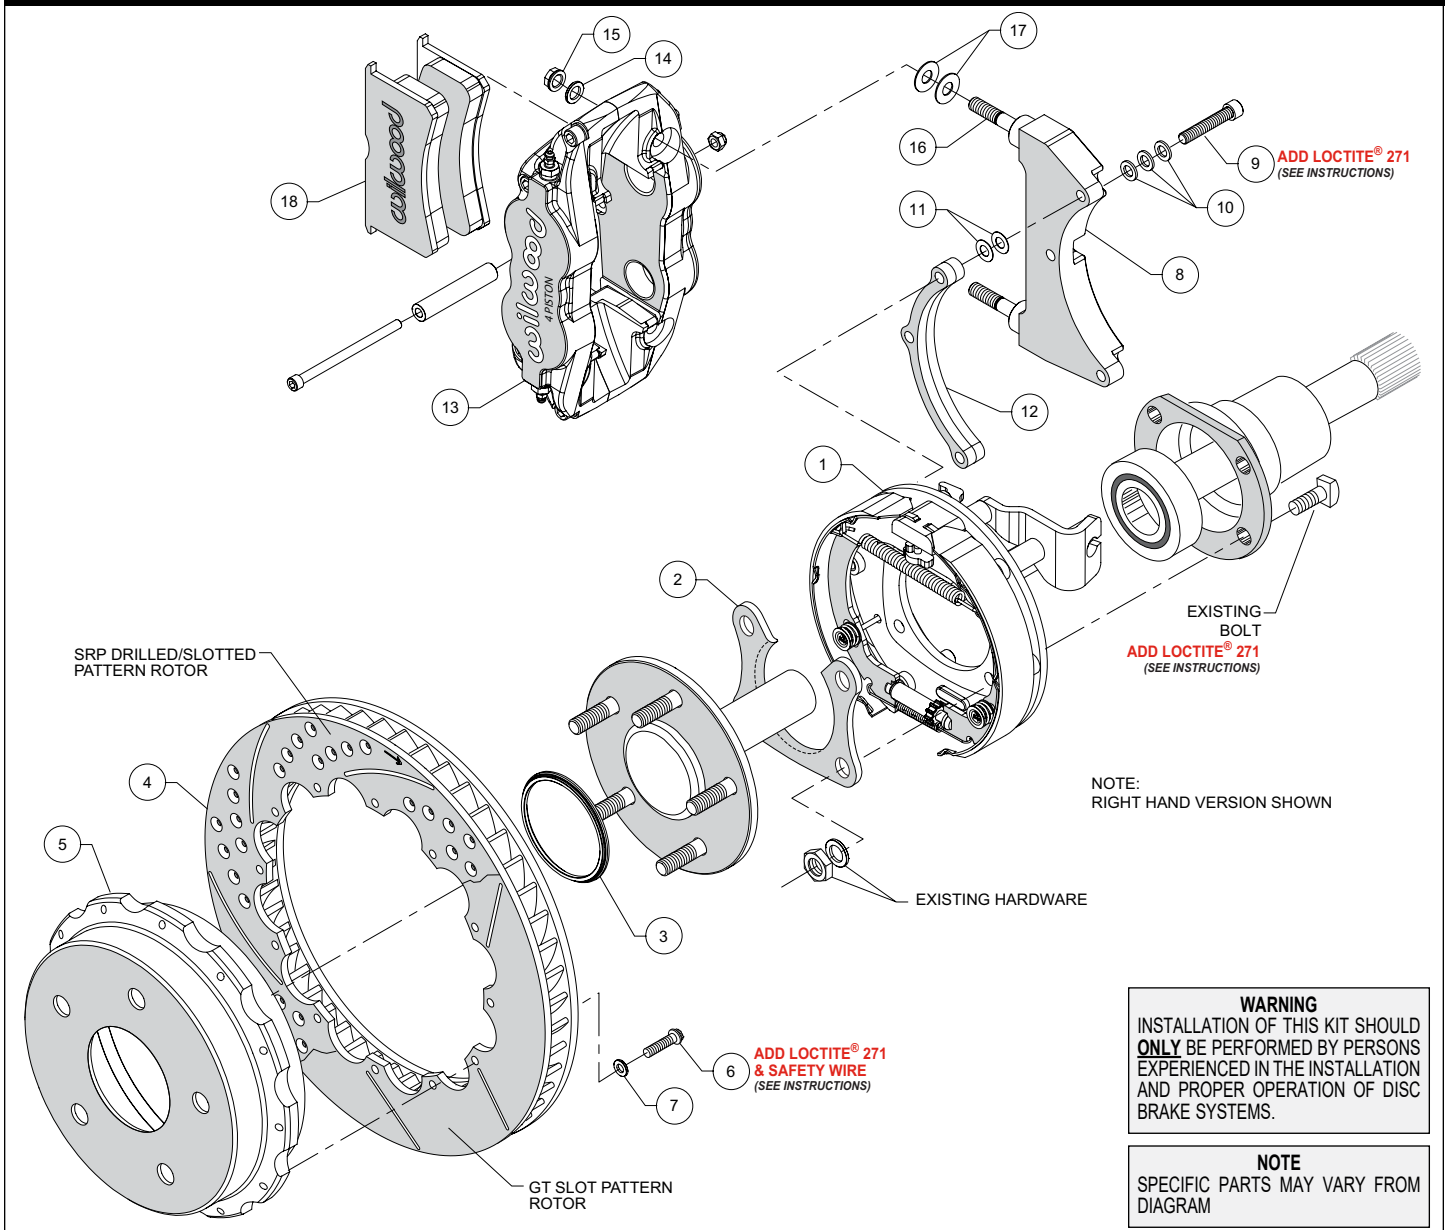
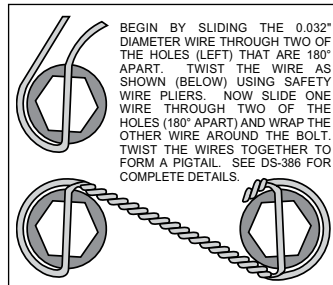

Figure 1. Typical Installation Configuration
Figure 5. Safety Wire Diagram
**Assembly Instructions** (numbers in parenthesis refer to the parts list, and Figure 1 on the preceding pages): **CAUTION:** All mounting bolts must fully engage clinch nuts. Be sure to check that all bolts are either flush or protruding through flanged side of clinch nut after shimming.
- Orient the bracket assembly (1) as shown in Figure 1 and Photo 1 and slide it onto the axle. Insert the axle and bracket into the axle housing. Ensure that the bracket assembly backing plate fits flush against the axle housing flange.
- Install the bearing retainer (2) with the opening pointing upward and the lip facing inward (toward the bearing), as shown in Figures 1 and 4, and Photo 2. Secure retainer and bracket assembly to the axle housing flange using the Original Equipment Manufacturer (OEM) bolts, washers, and nuts, Figure 1. Apply red *Loctite*® 271 to the OEM bolt threads and torque to OEM specifications.
•**NOTE:** Please reference the caution statement at the beginning of the assembly instructions. The caliper mounting bracket (8) should initially be installed with clean, dry threads on the mounting bolts. Orient the bracket as shown in Figure 1 and Photo 3, and install using bolts (9) and three flat washers (10). Initially place two .015" shim washers (11) on each bolt between the bracket (8) and spacer (12), Figure 1. Temporarily tighten the mounting bolts. **NOTE:** End of bolt should not exceed inside face of insert. The bracket must tighten squarely against the back side of the bracket kit assembly (1). Later, after the caliper alignment has been checked, the mount bolts will be secured using red *Loctite*®.
•Orient the rotor (4) and the hat (5) as shown in Figure 1 and Photo 4. Attach rotor to hat using bolts (6) and washers (7). Apply red *Loctite*® 271 to the bolt threads and torque to 140 **in-lb** using a criss-cross pattern. For an added measure of security, the bolts may be safety wired using standard 0.032 inch diameter stainless steel safety wire as shown in Figure 5. Please refer to Wilwood's data sheet DS-386 (available at [www.wilwood.com/Pdf/DataSheets/ds386.pdf](http://www.wilwood.com/Pdf/DataSheets/ds386.pdf)) for complete safety wire installation instructions.
•Slide the rotor registration adapter (3) onto the axle register on the axle flange with the smaller O.D. facing toward the rotor/hat (4/5), Photo 5. Align the hole pattern in the hat with the stud pattern on the axle flange and slide into place, Figure 1 and Photo 6. **NOTE:** The rotor/hat must fit flush against the axle flange or excessive rotor run out may result. Install three lug nuts (finger tight) to keep the rotor/hat assembly in place while continuing with the installation. **NOTE:** Some OEM and after market axles come with stud sizes larger than 0.50" diameter. Verify stud size and have a qualified machine shop drill the bolt circle of the hat/rotor to the correct stud size, if necessary.
•Initially place two .035" thick shims (17) on each stud as shown in Figure 1 and Photo 7. Mount the caliper (13) onto the bracket (8) using lock nuts (15) and washers (14), Figure 1. Temporarily tighten the lock nuts and view the rotor through the top opening of the caliper. The rotor should be centered in the caliper, Photo 8. If not, adjust by adding or subtracting shims (11) between the bracket (8) and the spacer (12). Always use the same amount of shims on each of the three mounting bolts. Once the caliper alignment is correct, remove the bracket mounting bolts (9) one at a time, apply red *Loctite*® 271 to the threads, and torque to 180 **in-lb**.